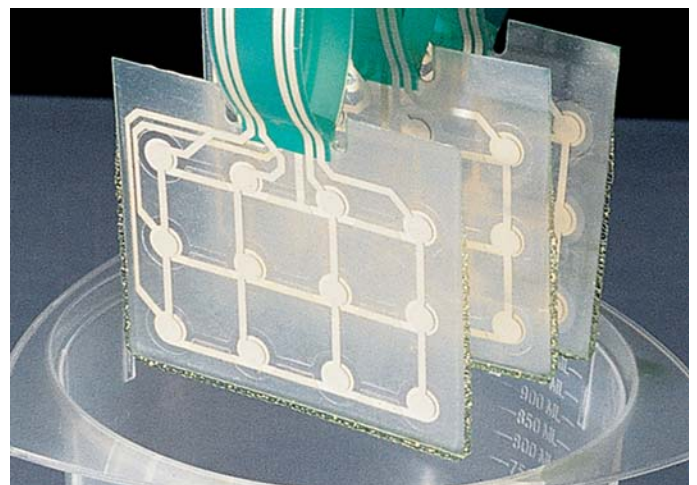

FIGURE 15: PSA construction switches soaked in other cleaners
- B) Fantastik – ingress and dissolving occurred as above. Failure occurred on day 42 (see Figure 15).
- C) Dow Bathroom Cleaner – ingress and dissolving occurred as above. Failure occurred on day 56 (Figure 15).
- D) Lysol Tub and Tile Cleaner – ingress and dissolving occurred as above. Failure occurred on day 92 (see Figure 15).